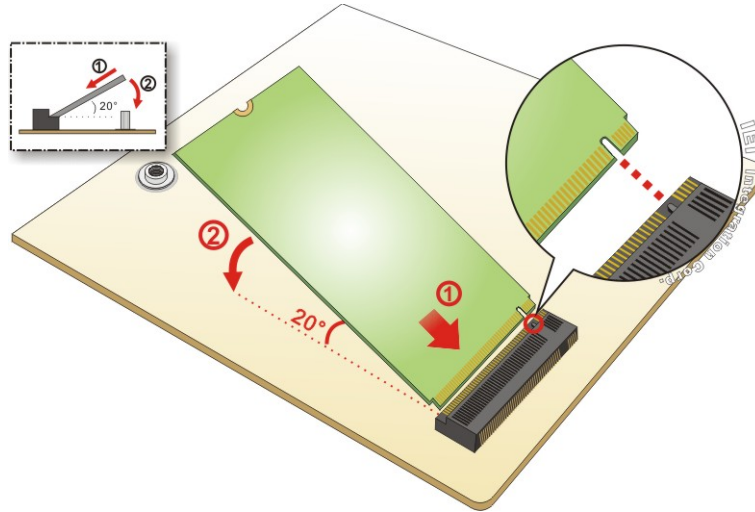

Figure 3-3: Inserting SSD into the Socket at an Angle
Step 3: Line up the notch on the SSD with the notch on the socket. Slide the SSD into the socket at an angle of about 20° (**Figure 3-3**).